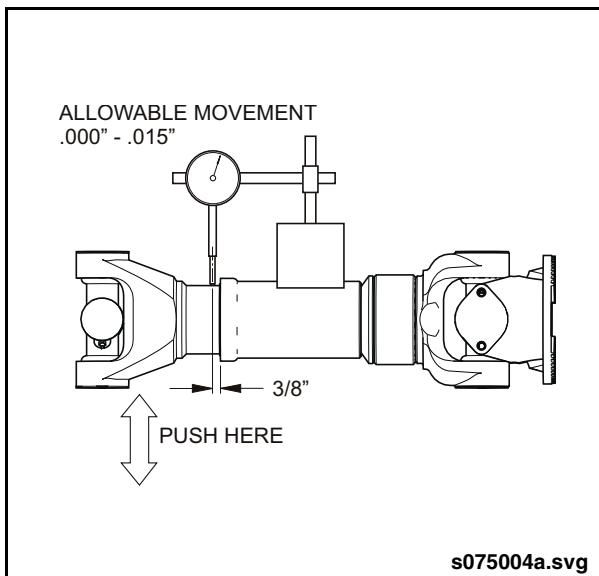

Fig. PM-11: Driveshaft Spline Inspection
- Check for spline wear using a dial indicator and magnetic base mounted on the driveshaft. See "Fig. PM-11: Driveshaft Spline Inspection" on page 38. Manually applying a push/pull force to the yoke as shown. Indicator reading should not exceed 0.015". Excessive movement will necessitate disassembly and further inspection of the driveshaft to determine cause.